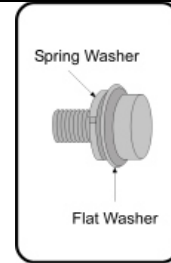

Figure 193: Inserting Screws into Flat Washer and Spring Washer
5. Place a spring washer (item no. 4) and flat washer (item no. 3) on each of the screw holes on the plate (See Figure 193).